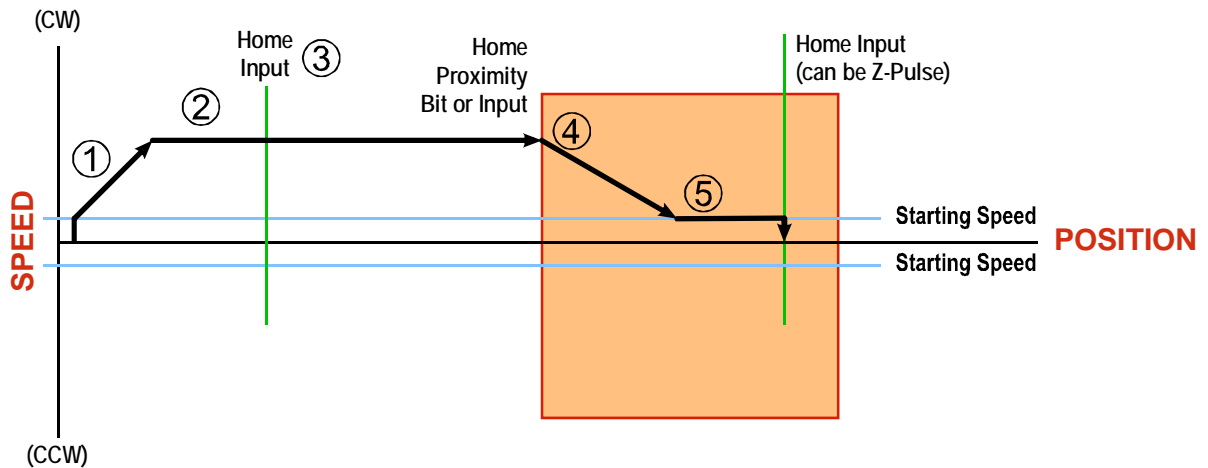

Figure R4.2 Homing with Proximity
Figure R4.2 below shows the move profile generated by a CW Find Home command when you use:
**NOTE**  Figure R4.2 shows the Proximity Input, which is either the Network Home Proximity bit or the Home Input, staying active until the SD4840E2 reaches its home position. This is valid, but does not have to occur. As stated in step 4, the SD4840E2 starts to hunt for the home position as soon and the Proximity Input makes a 0→1 transition.